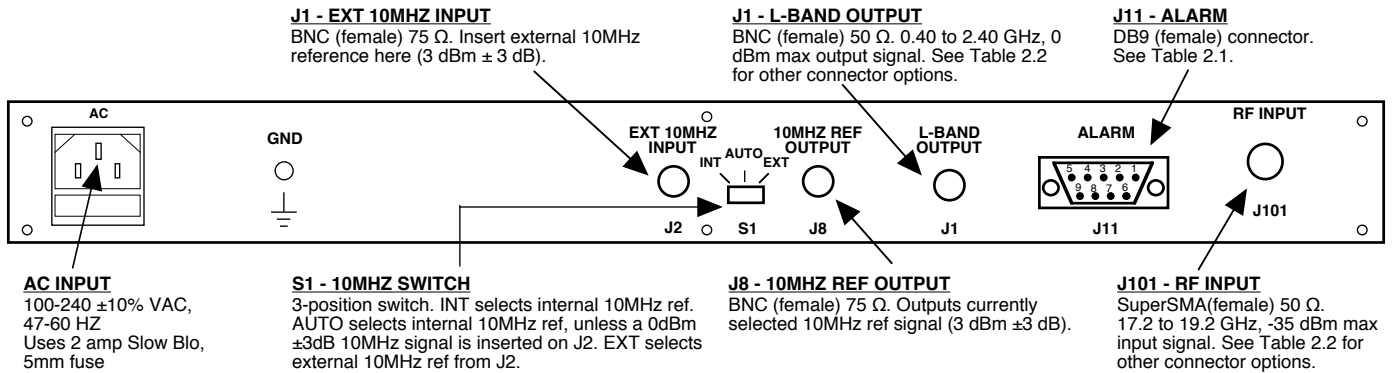

FIGURE 2.1 2116-172192 Rear Panel I/O's
2.2 Rear Panel Input/Output Signals - Figure 2.1 shows the input and output connectors on the rear panel.
- 1.) Connect a -55 dBm to -35 dBm signal to RF INPUT, J101 (Figure 2.1).
- 5.) Select either INT (for internal 10MHz ref), AUTO (for internal 10MHz ref UNLESS a external 10MHz, 0 dBm signal is connected to J2), or EXT (for external 10MHz, 0 dBm ref that is inserted at J2) on rear panel switch S1 (Figure 2.1).
- 7.) Check that a 10MHz, 0 dBm \pm 3 dB signal is present at the 10MHZ REF OUTPUT (J8) (Figure 2.1).